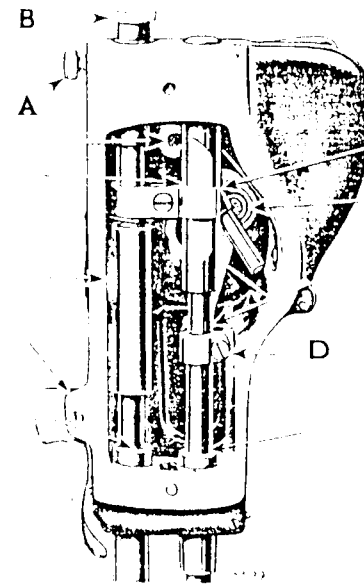

Fig. 4. End View of Machine Showing Oiling Points, also Adjustments on the Machine
Loosen the thumb screw in the upper end of the face plate, turn the face plate upward and oil the wicks and bearings which are thus uncovered (see Fig. 4), then turn down the face plate and tighten the thumb screw.
The pressure of the presser on the material is regulated by the thumb screw (B, Fig. 4) at the top of the machine.
To increase the pressure, loosen the thumb screw (A, Fig. 4) at the back of the machine and turn the thumb screw (B) over to right or downward. To decrease the pressure, turn the thumb screw (B) over to the left or upward. When the required amount of pressure is obtained, tighten the thumb screw (A).